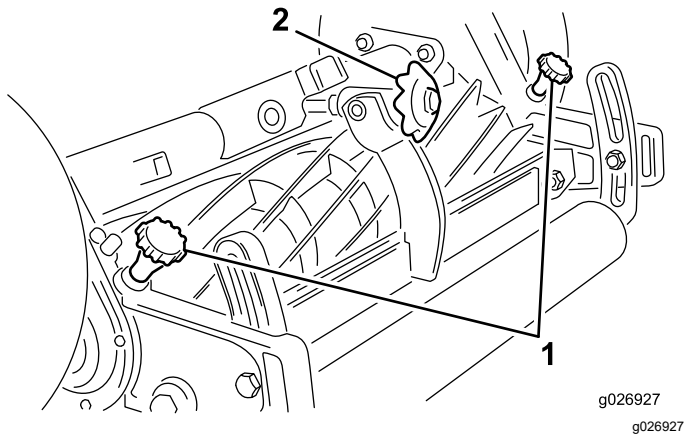

Figure 5
2. Make sure that the throwout knobs (Figure 5) are disengaged and the bedknife to reel contact is removed by turning the bedknife adjustment knob counterclockwise.
3. Insert a long strip of newspaper between the reel blade and the bedknife. While rotating the reel backward, turn the bedknife adjusting knob (Figure 5) clockwise, one click at a time, until the paper is pinched lightly, which results in the